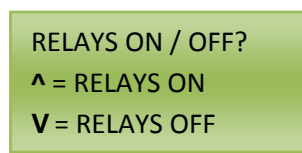

Figure 5.2
2. Press FWD until the LCD screen says, “RELAYS ON/OFF?” See Figure 5.2 for a visual example.